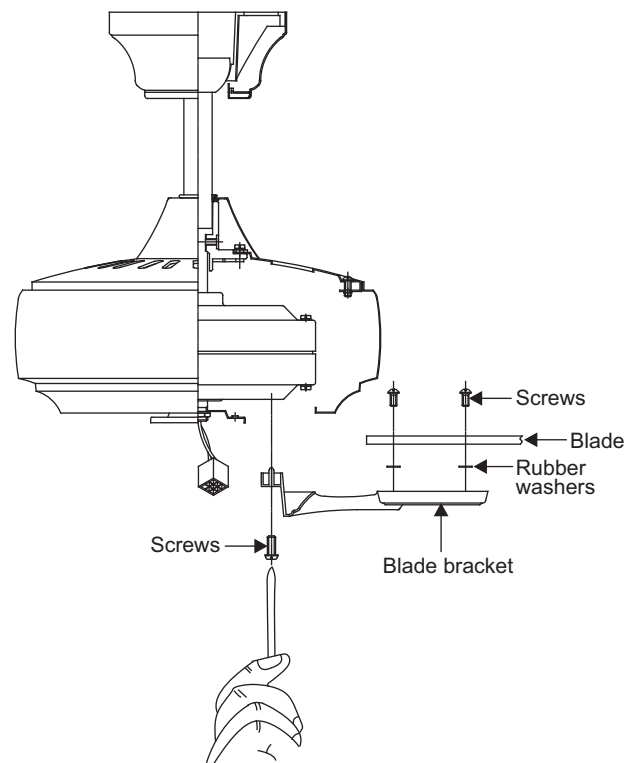

Figure 17
**Step 1.** Attach the blade to the blade bracket using the screws and rubber washers as shown in Figure 17. Start screw into bracket. Repeat for the two remaining screws.
**Step 3.** Fasten blade assembly to motor using the screws supplied. (Fig. 17)